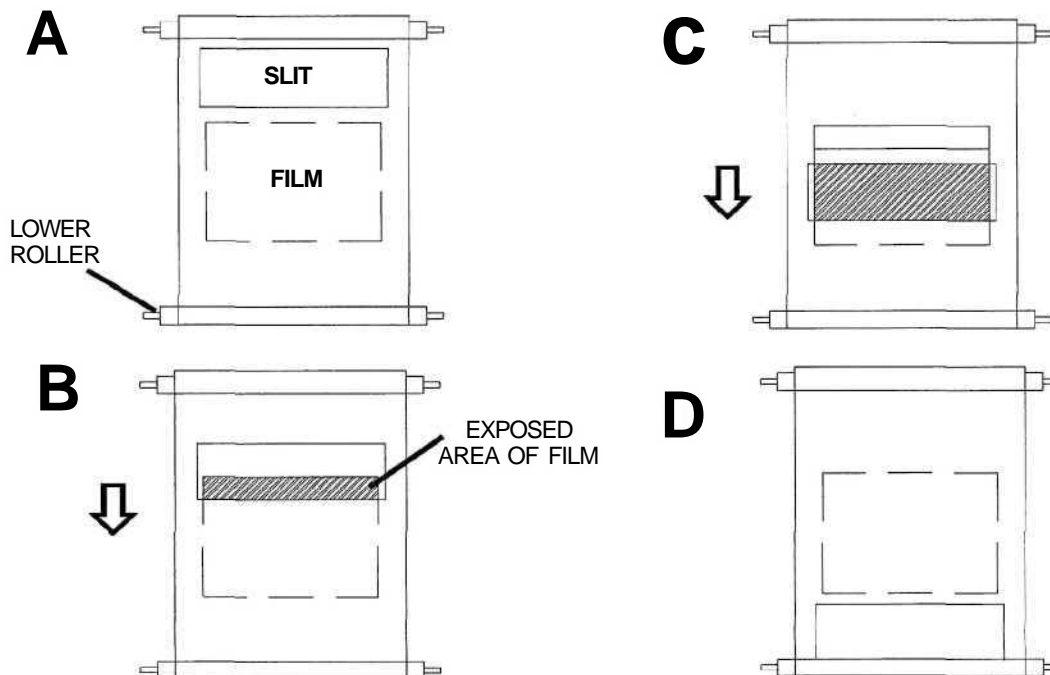

Fig. FP2 Exposure sequence with a multiple-slit curtain (view from front of camera).
Moving the curtain in the cocking direction also tensions a spring—a spring located within the lower roller, Fig. FP2 (A). The tensioned spring is now ready to draw the curtain in the release direction.
When you release the shutter, the spring pulls the curtain in the direction of the arrow, Fig. FP2 (B). The film gets exposed as the curtain opening moves across the film opening, Fig. FP2 (C). At the end of the exposure cycle, the curtain opening rests below the focal-plane aperture, Fig. FP2 (D).
But notice that the entire frame doesn't get exposed at the same time. First the top of the film is exposed, Fig. FP2 (D). Then, as the curtain continues moving in the release direction, the rest of the film frame is exposed, Fig. FP2 (C). In effect, the slit wipes the exposure onto the film.